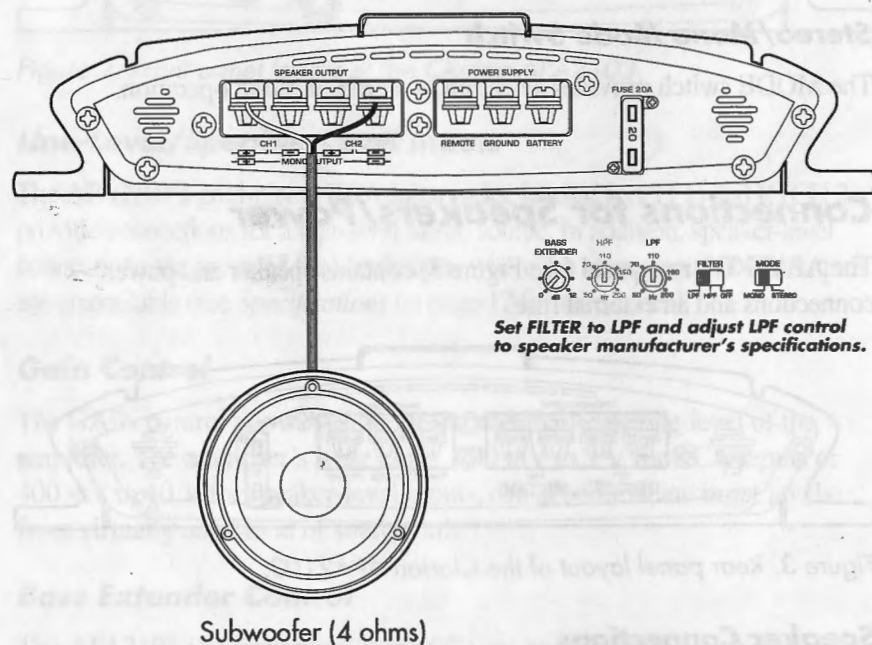

Figure 4. In this application, an APA2103 is bridged for mono operation to drive a subwoofer with 125 watts of continuous average power.
The Clarion APA2103 2-channel car audio amplifier can be used in a variety of system applications. Here are three examples to help plan your own installation (see Figures 4 through 6).
- ◆ Depending on the type of system being installed, refer to the examples in Figures 4 through 6 (starting on page 6) for information on wiring and setting the operation mode.